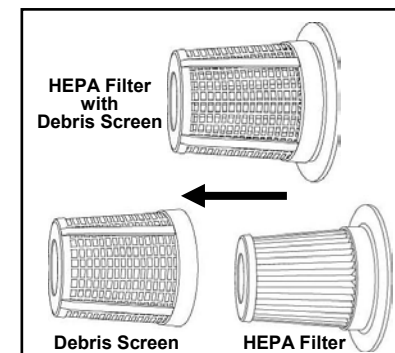

Fig. 13
1. When you have removed the HEPA Filter from the dust cup, separate the debris screen from the HEPA Filter. (Fig. 13)